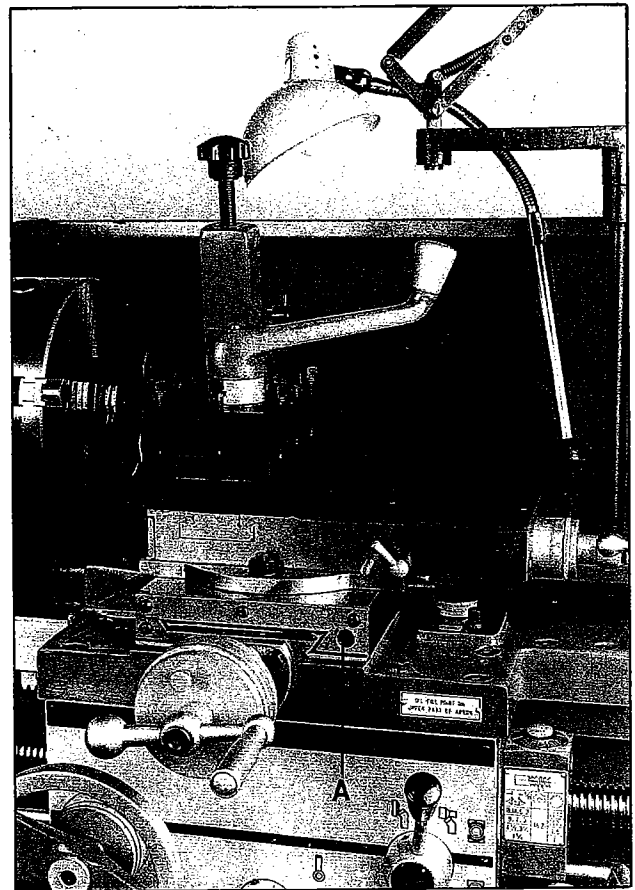

Fig. 26
2. Tighten the front gib screw (A, Fig. 26) a quarter turn.